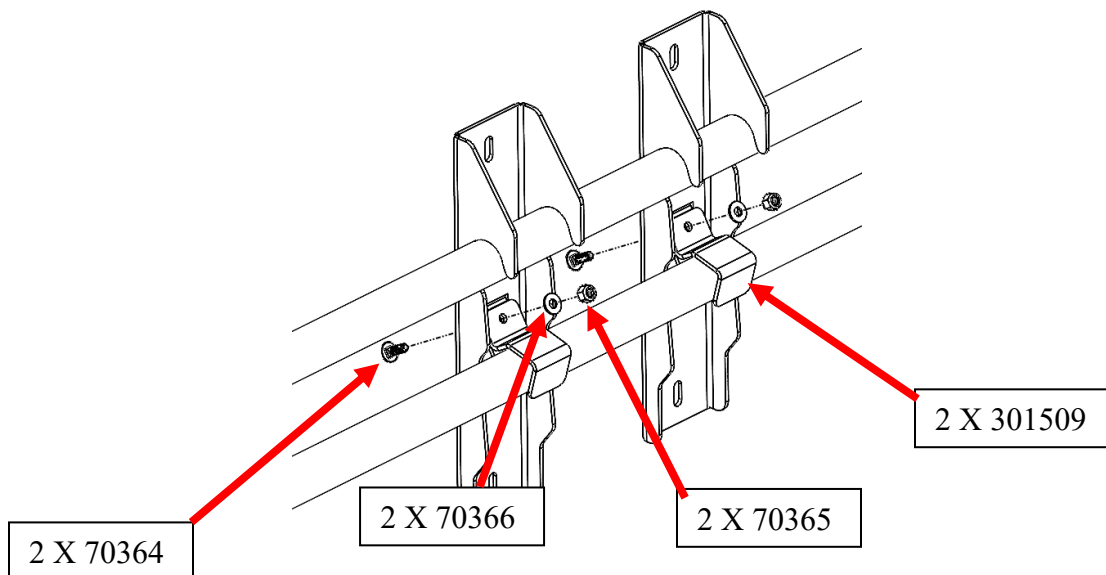

Figure 2: Installing MaxTrax Mount along Roof Rack Rail
2. Using the provided install hardware and pipe clamping brackets, LOOSELY secure the MaxTrax Mount to the Roof Rack rails as shown in Figure 2.